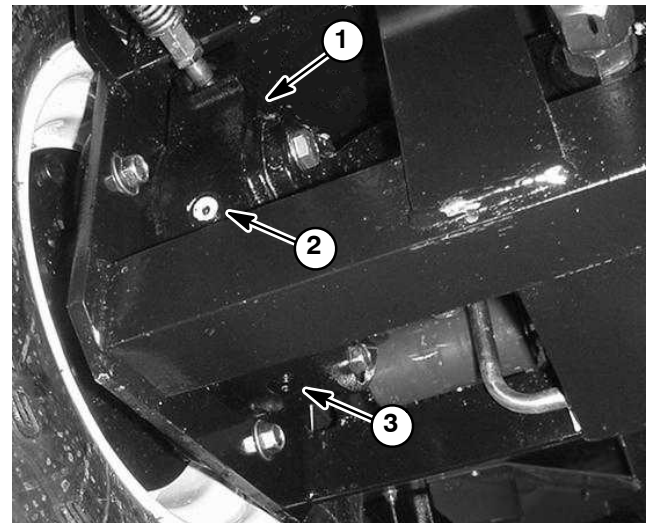

Figure 6
6. Make sure drain plug is installed in bottom of brake assembly (Fig. 6). Fill planetary wheel drive/brake assembly with SAE 85W-140 gear lube. Capacity is approximately 16 fl. oz. (0.47 liters) per wheel.